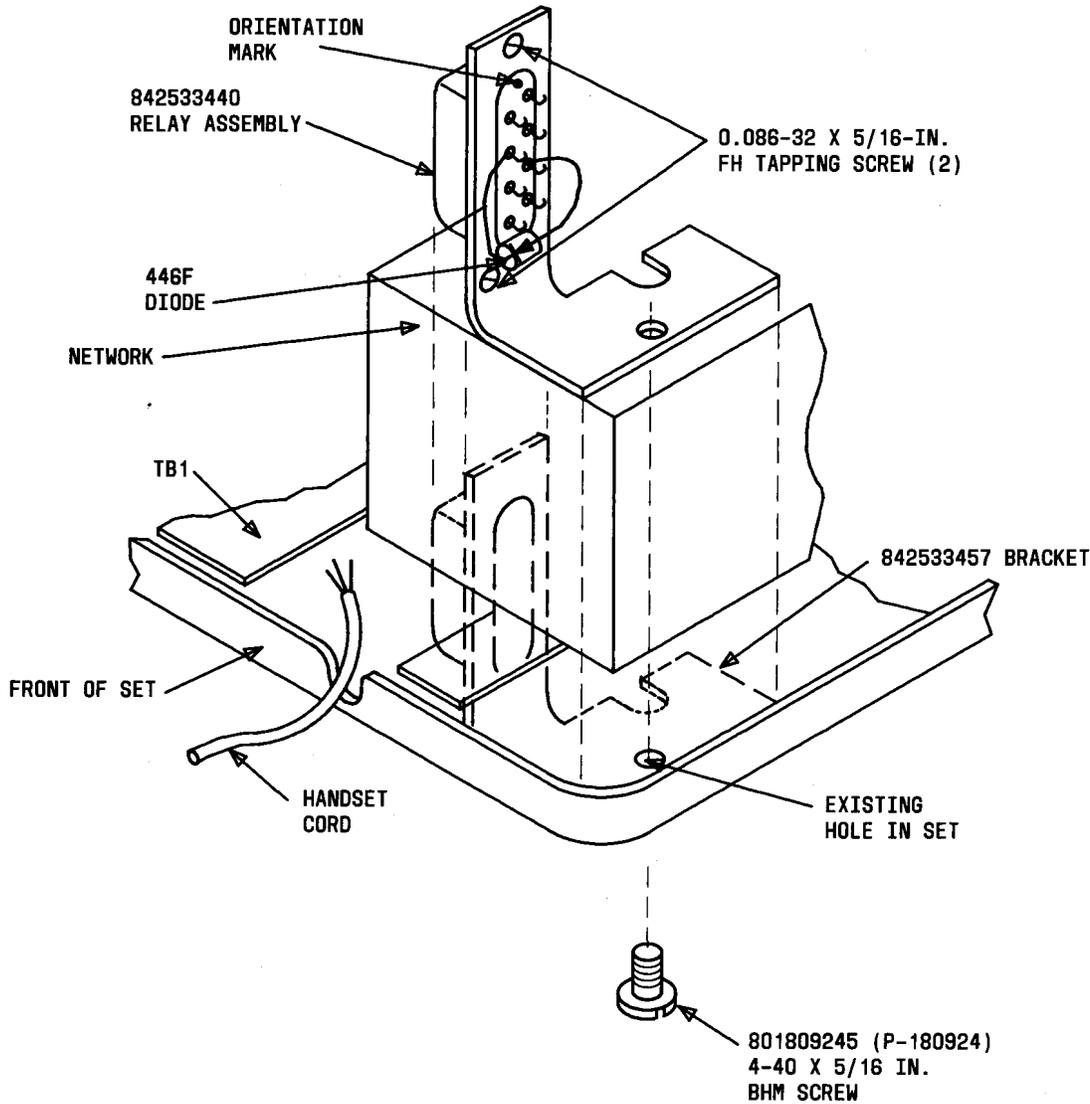

Fig. 5—Mounting Location for 4-Wire Relay Assembly
(1) Mount the relay assembly in the front right-hand corner of the telephone set using mounting bracket and screws as shown in Fig. 5.